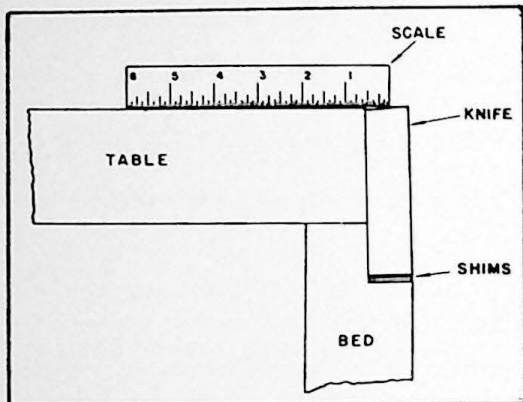

Fig. 19. Shimming Lower Knife
10. Remove the lower knife, turn it over and re-place it in the shear with a sharp edge in the cutting position. NOTE-After knives are reground, adjust laminated shim under lower knife (See figure 19) and set cutting edge level with or slightly above the table top. Laminated shim packs are furnished with the shears and are also available from the factory. Use a straight edge or steel scale resting on the table surface to check this setting. The knife has a slight tilt and the edge against the table will be lower than the cutting edge. The ideal setting is where the straight edge hits the center of the knife. This means that the rear half is slightly above the table level. See instruction sheet for shimming lower knife in the rear section in this manual for additional information.